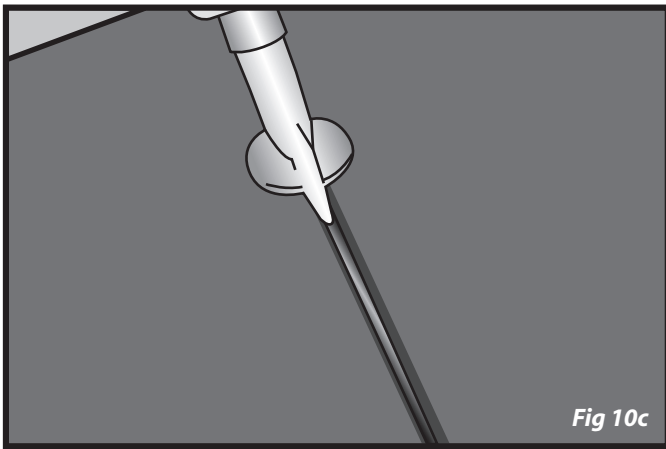

Fig 10c
- Insert the custom applicator tip into the seam of the tiles until the depth guide (washer), comes in contact with the top of the tiles (Fig 10c).